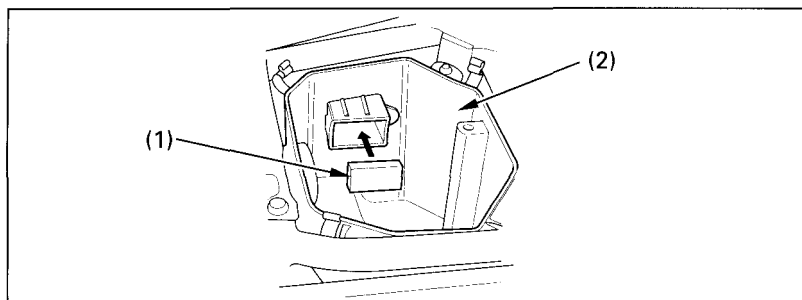

Fig. 4-7
Do not push the dust cover (1) (Fig. 4-7) into the air cleaner housing (2). If the dust cover is dirty, clean it.